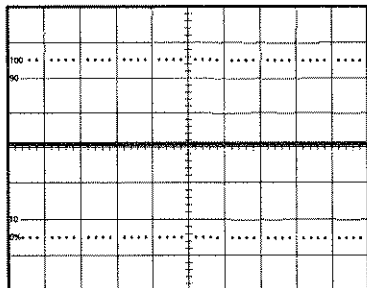

Figure 5: Functional Check Display 2
6. Set the **CH2 INV** button to the **IN (ON)** position.
9. Figure 5 shows a satisfactory display. The display should show a flat trace located on the center graticule: this confirms the channel balance and ADD offset functions.